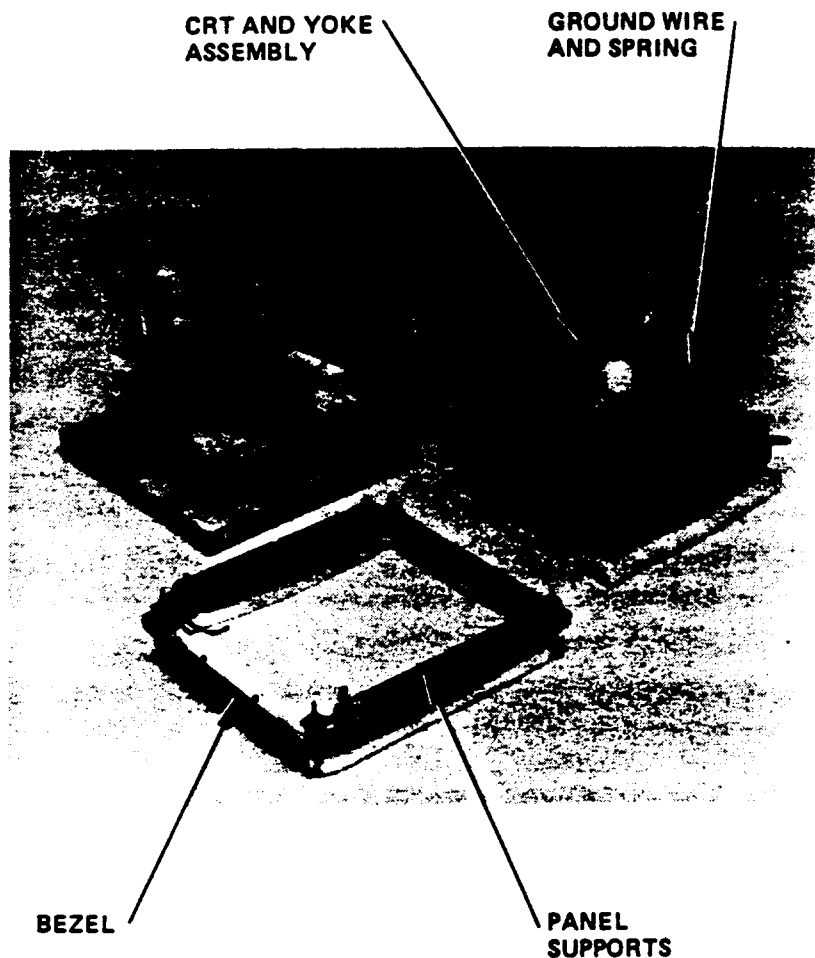

Figure 2-8. Removing the CRT and Yoke Assembly from the Bezel
5. Lift the CRT and Yoke Assembly directly upward from the Bezel and panel supports. Place the CRT screen down on a soft surface, such as a towel. See Figure 2-8.
6. Remove the ground wire and spring from the 2 corners of the CRT (refer to Figure 2-8).
4. Remove the Bezel by pulling it away from the panel supports (refer to Figure 2-8).